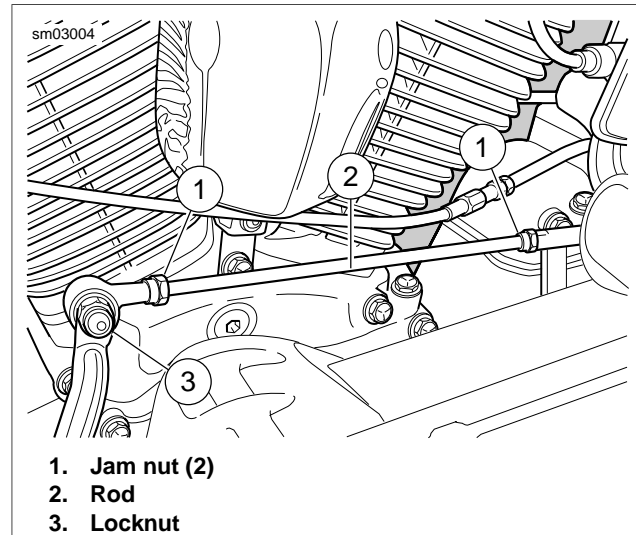

Figure 7-2. Shifter Rod
1. See Figure 7-2. Remove locknut (3), lockwasher and flat washer to free front end of shift rod from inner shift arm.
2. Loosen jam nuts (1) and adjust rod (2) as necessary.
3. Install flat washer, lockwasher and locknut (3) to fasten front end of shift rod to inner shift arm.
4. Tighten locknut (3) to 96-144 **in-lbs** (10.8-16.3 Nm)